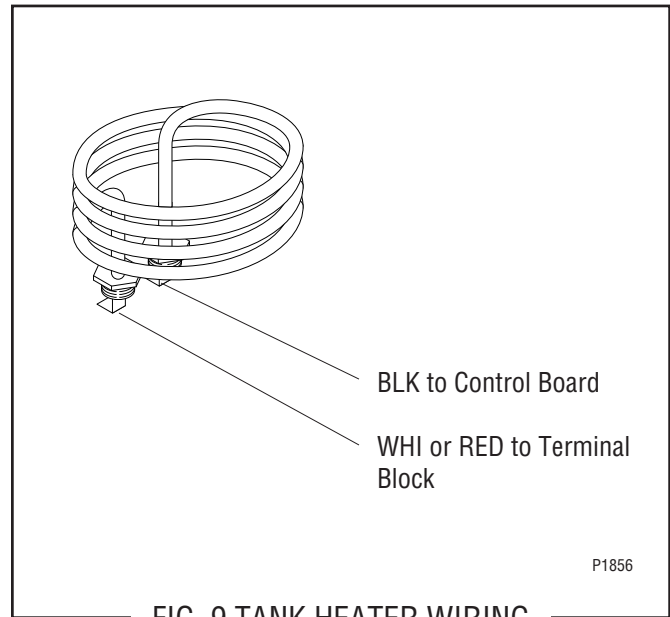

FIG. 9 TANK HEATER WIRING
28. Refer to FIG. 9 when reconnecting the tank heater wires.